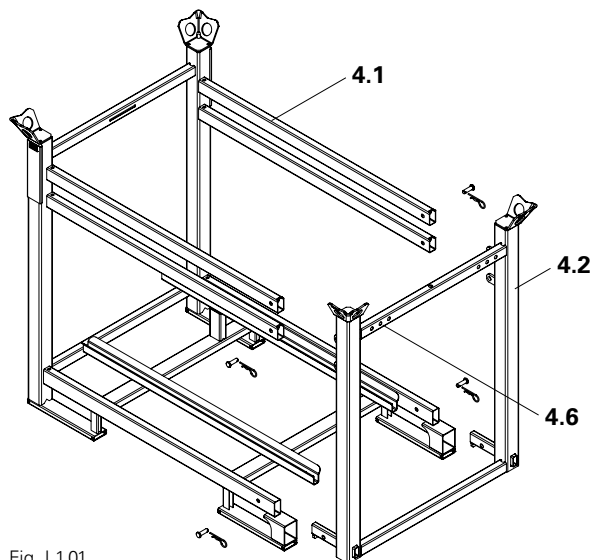

Fig. L1.01
The Pallet ESP 67 (4) consists of a pallet suspension (4.1) and a slide-on pallet frame (4.2). The securing strip (4.3) guarantees safe and stable storage for transportation. (Fig. L1.01 + L1.02)
(Fig. L1.01 + L1.02a)